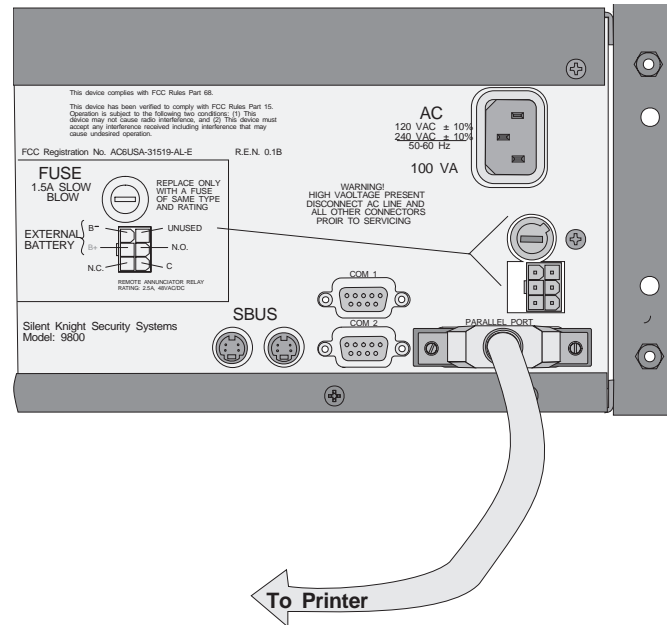

Figure 3-8 Parallel Printer Cable Connection to CS-5000
1. Connect the standard parallel printer cable to the parallel printer port on the back of the CS-5000 receiver (Figure 3-8).